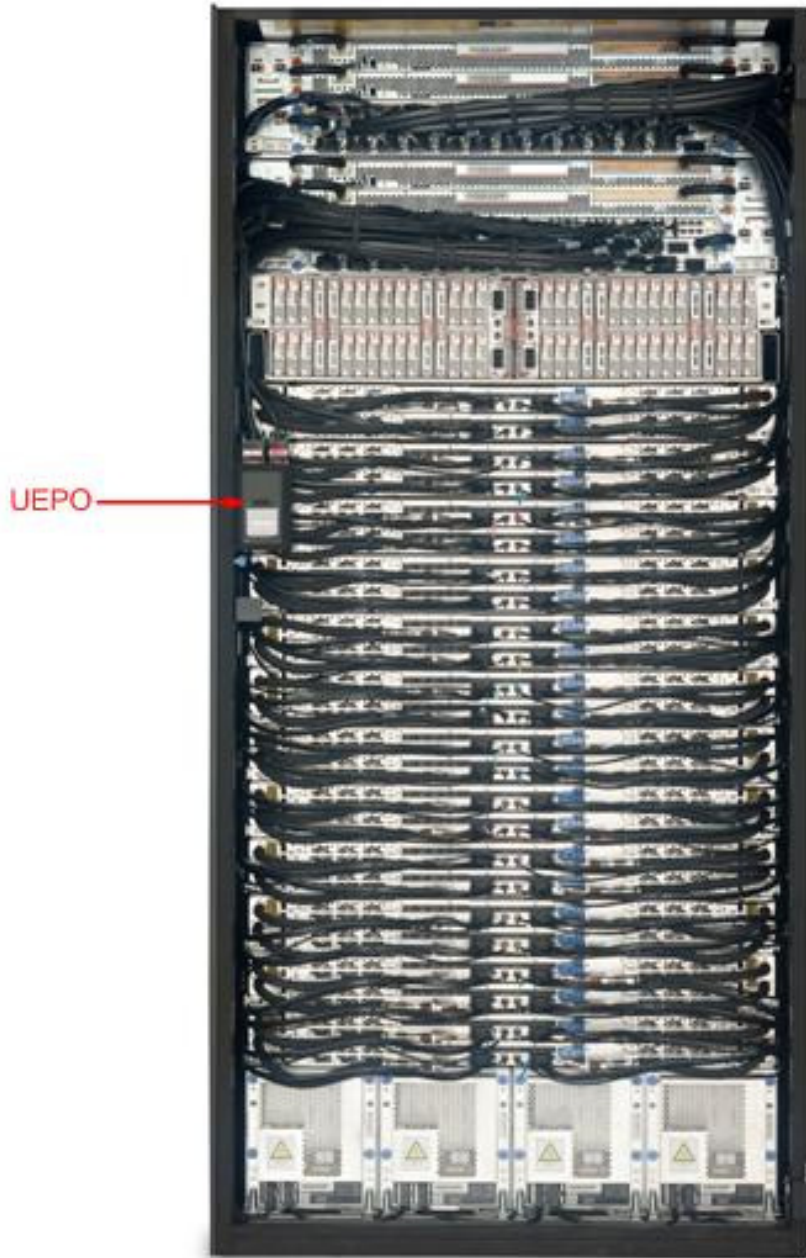
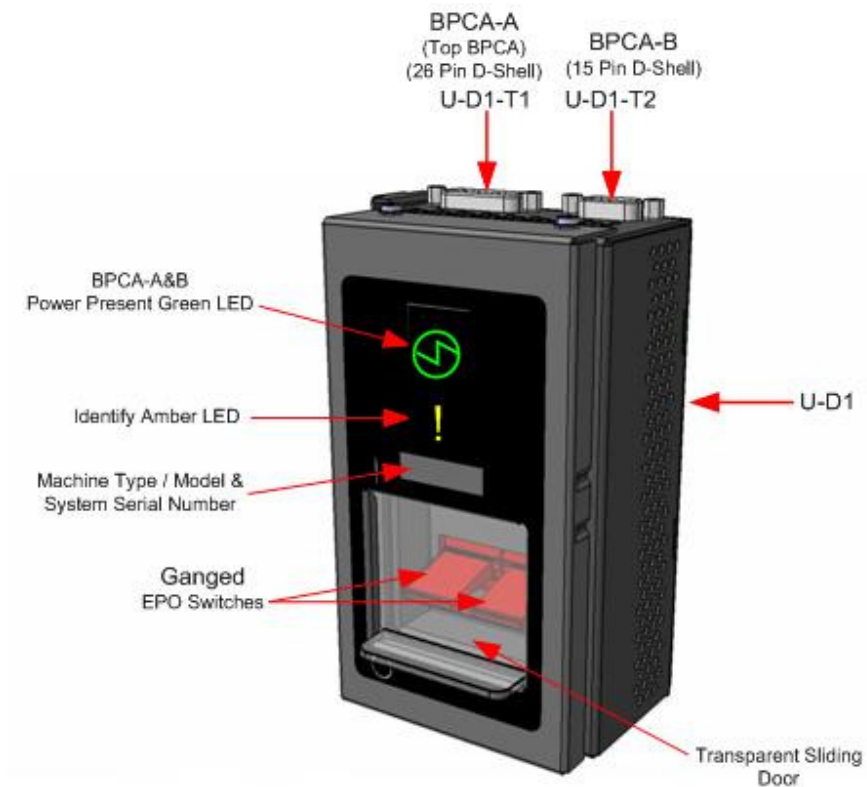

Figure 7 Frame Photo showing UEPO location
Figure 8 UEPO assembly showing frame Identify Amber LED
- STEP 6 Locate the frame. Confirm that it is the correct frame by checking that its UEPO Panel Identify LED is blinking. This LED is located on the UEPO panel and it is marked by the “!” symbol (see Figure 7 and Figure 8).